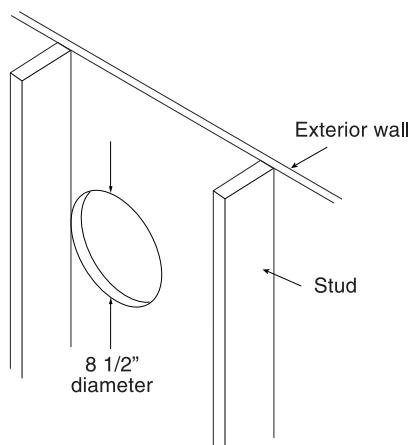

Fig. 1
- Cut a 215 mm (8 1/2") diameter hole in the wall. (Fig. 1) (Cut the hole next to a wall stud as shown in the figure.).